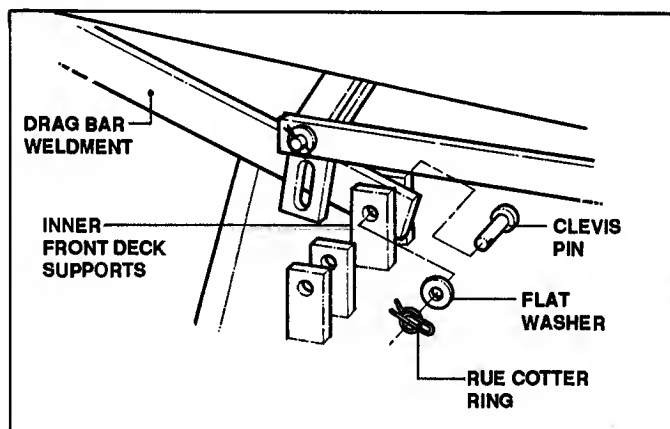

FIGURE 11.8
- E. Remove the two clevis pins from the inner front deck supports and drag bar weldment. See Figure 11.8.